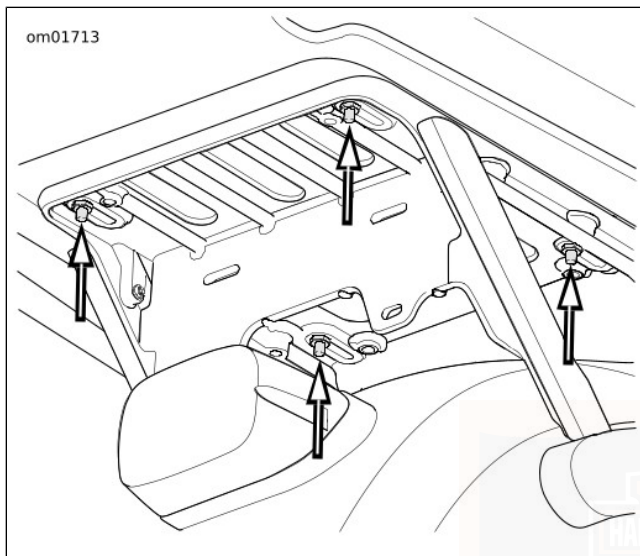

Figure 43. Tour-Pak Position Adjustment
1. See Figure 43. Loosen the four nuts securing the Tour-Pak to the support.